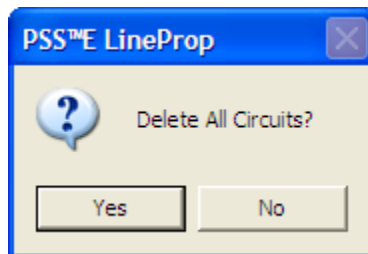

Figure 1-26. Verify to Delete All Circuits
2. You are asked to verify that all circuits are to be deleted, as illustrated in Figure 1-26. A response of Yes will remove all circuits from the Corridor View.